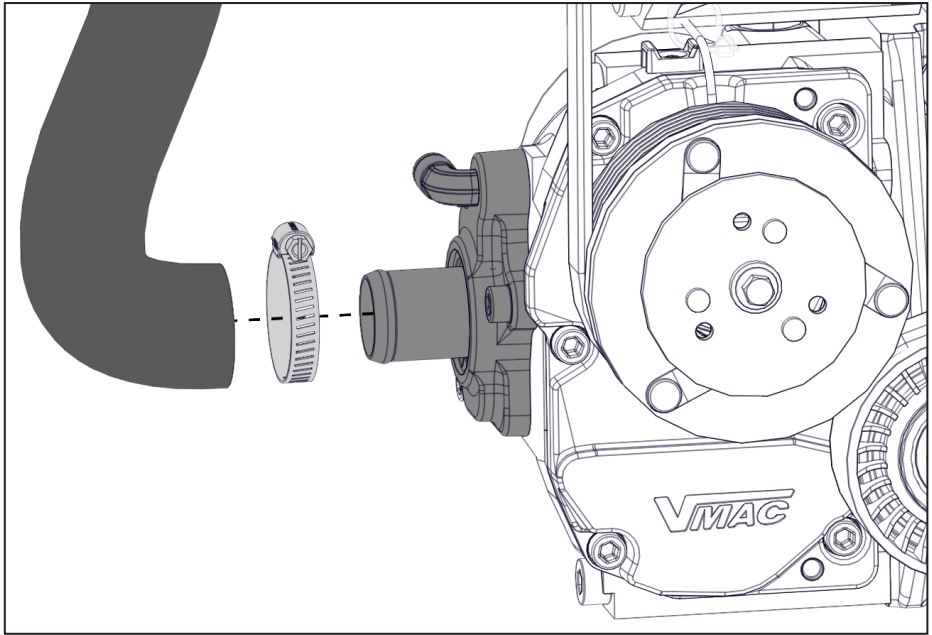

Figure 43 — Install intake hose
- Install the curved end of the 1 in intake hose assembly onto the spigot on the side of the compressor. Direct the hose upwards and secure it using the supplied hose clamp (Figure 43).